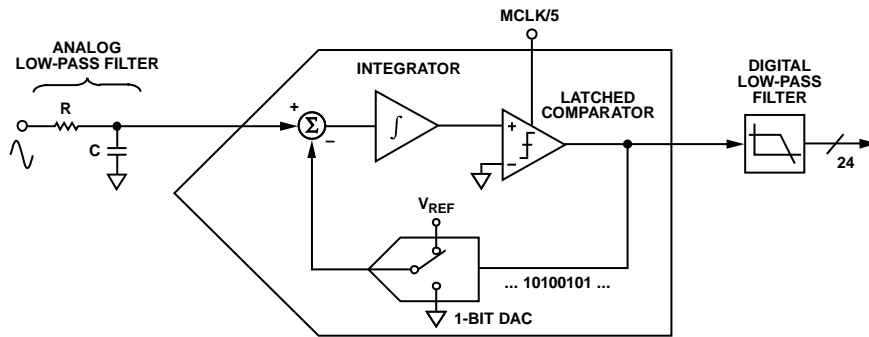
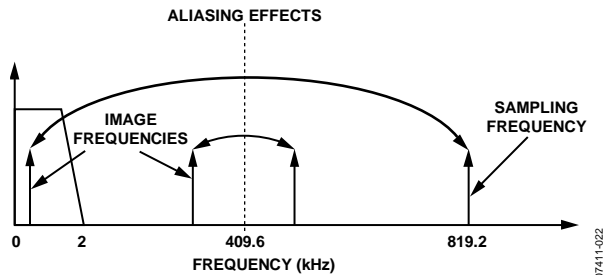

Figure 44. First-Order  $\Sigma$ - $\Delta$  ADC
Figure 45. ADC and Signal Processing in Current Channel Outline Dimensions
For simplicity, the block diagram in Figure 44 shows a first-order  $\Sigma$ - $\Delta$  ADC. The converter is made up of the  $\Sigma$ - $\Delta$  modulator and the digital low-pass filter (LPF).
Figure 44 also shows an analog LPF (RC) on the input to the modulator. This filter is present to prevent aliasing, an artifact of all sampled systems. Aliasing means that frequency components in the input signal to the ADC that are higher than half the sampling rate of the ADC appear in the sampled signal at a frequency below half the sampling rate. Figure 45 illustrates the effect. Frequency components (the black arrows) above half the sampling frequency (also known as the Nyquist frequency, that is, 409.6 kHz) are imaged or folded back down below 409.6 kHz. This happens with all ADCs, regardless of the architecture. In Figure 45, only frequencies near the sampling frequency (819.2 kHz) move into the band of interest for metering (40 Hz to 2 kHz). This allows the use of a very simple LPF to attenuate high frequency (at approximately 819.2 kHz) noise and prevents distortion in the band of interest.
For conventional current sensors, a simple RC filter (single-pole LPF) with a corner frequency of 10 kHz produces an attenuation of approximately 40 dB at 819.2 kHz (see Figure 45). The 20 dB per decade attenuation is usually sufficient to eliminate the effects of aliasing for conventional current sensors. However, for a di/dt sensor such as a Rogowski coil, the sensor has a 20 dB per decade gain. This neutralizes the  $-20$  dB per decade attenuation produced by one simple LPF. Therefore, when using a di/dt sensor, care should be taken to offset the 20 dB per decade gain. One simple approach is to cascade two RC filters to produce the  $-40$  dB per decade attenuation needed.